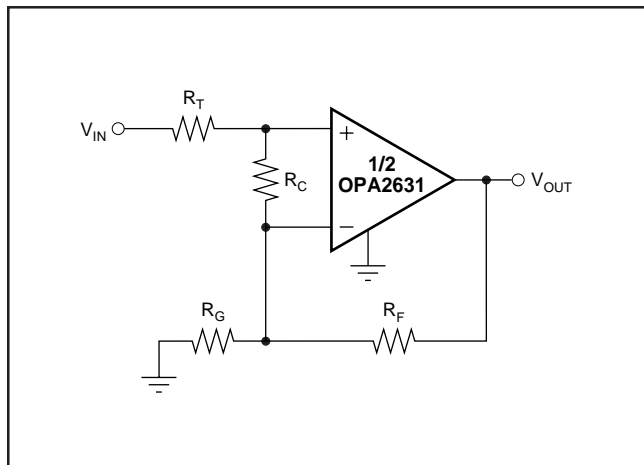

FIGURE 6. Compensated Non-Inverting Amplifier.
Figure 6 shows a non-inverting amplifier that reduces peaking at low gains. The resistor R_C compensates the OPA2631 to have higher Noise Gain (NG), which reduces the AC response peaking (typically 5dB at $G = +1$ without R_C) without changing the DC gain. V_{IN} needs to be a low impedance source, such as an op amp. The resistor values are low to reduce noise. Using both R_T and R_F helps minimize the impact of parasitic impedances.
Since the OPA2631 is a voltage feedback op amp, a wide range of resistor values may be used for the feedback and gain setting resistors. The primary limits on these values are set by dynamic range (noise and distortion) and parasitic capacitance considerations. For a non-inverting unity gain follower application, the feedback connection should be made with a 25Ω resistor, not a direct short (see Figure 6). This will isolate the inverting input capacitance from the output pin and improve the frequency response flatness. Usually, for $G > 1$ application, the feedback resistor value should be between 200Ω and $1.5k\Omega$. Below 200Ω , the feedback network will present additional output loading which can degrade the harmonic distortion performance. Above $1.5k\Omega$, the typical parasitic capacitance (approximately $0.2pF$) across the feedback resistor may cause unintentional band-limiting in the amplifier response.
The criterion for setting this R_S resistor is a maximum bandwidth, flat frequency response at the load. For a gain of +2, the frequency response at the output pin is already slightly peaked without the capacitive load, requiring relatively high values of R_S to flatten the response at the load. Increasing the noise gain will also reduce the peaking (see Figure 6).
tance can add a pole and/or zero below 500MHz that can effect circuit operation. Keep resistor values as low as possible consistent with load driving considerations. The 750Ω feedback used in the typical performance specifications is a good starting point for design. See Figure 6 for the unity gain follower application.